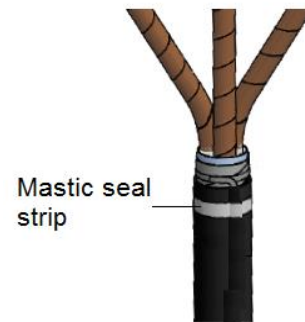

Figure 2
1. Remove the cable filler, separate the three core cables and insert the plastic filler into the cable trifurcation. As figure 2 shown, wrap a layer mastic seal strip on the jacket.